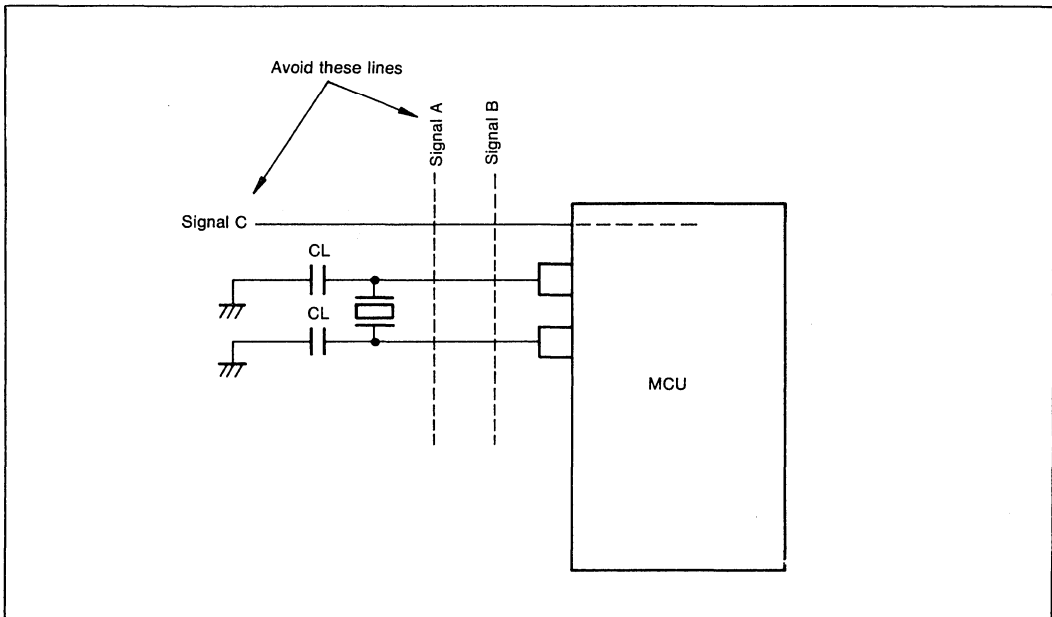

Figure 8-22. Oscillation Circuit Precautions
Keep the following rules in mind when designing the circuit to connect the crystal resonator with the XTAL and EXTAL pins (figures 8-22, 8-23).
3. Do not allow signal or power lines to cross or run closely parallel to the oscillator lines (signals A, B, C in figure 8-22). They will disturb normal oscillation. Keep the resistance between XTAL and EXTAL pins and the next nearest pins greater than  $10\text{ M}\Omega$ .